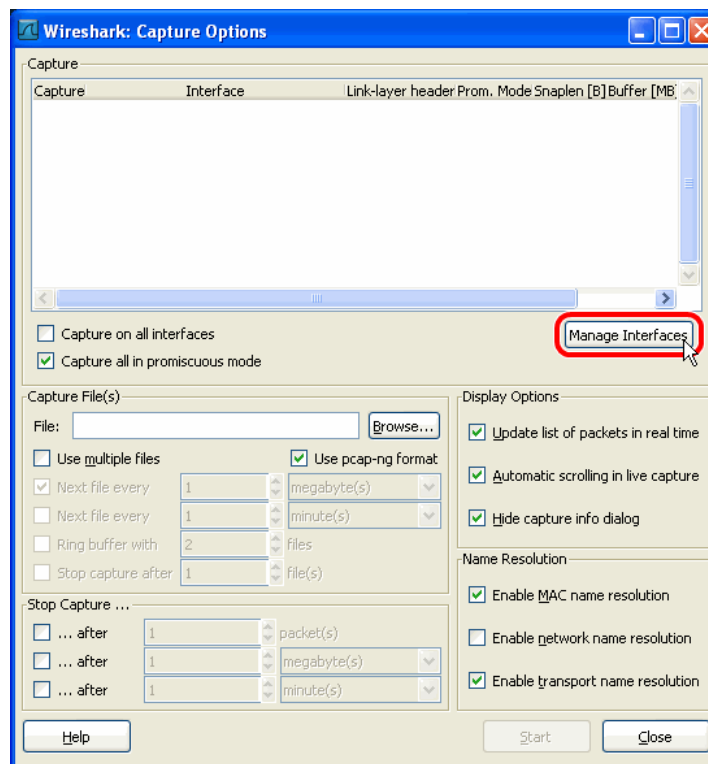

Figure 76: Wireshark Capture Options Dialog.
1. Open Wireshark and choose the menu **Capture → Options...** . This opens the **Capture Options** dialog as shown in Figure 76.